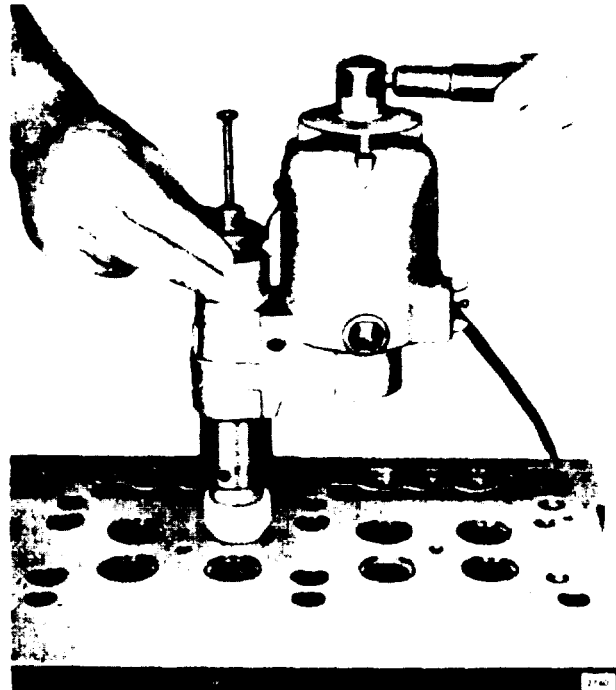

Figure 11B-63. Reconditioning Valve Seat Insert
3. Grind the top surface of the insert with the 15° wheel to narrow the width of the seat to the dimensions shown in Figure 11B-61 on page 11B-39. The 31° face of the insert may be adjusted relative to the center of the valve face with the 15° and 60° grinding wheels.